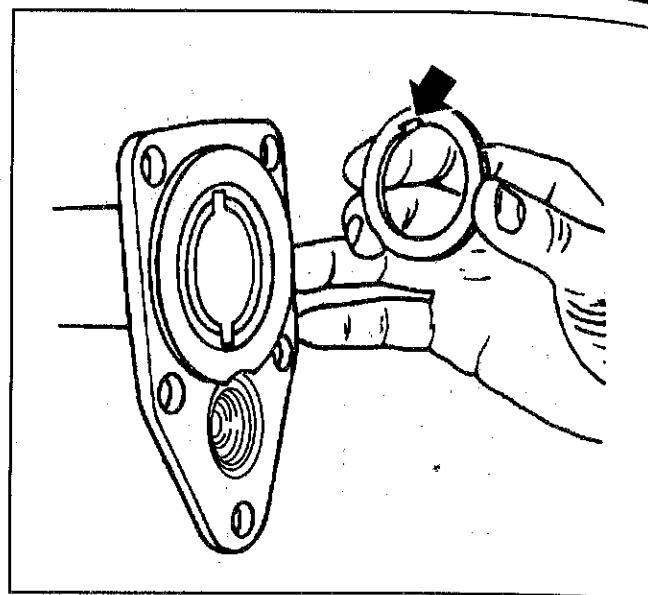

Figure 10—Installing the Thrust Washer
1. Thrust washer to the tube as shown in Figure 10. Use grease to hold it in place.